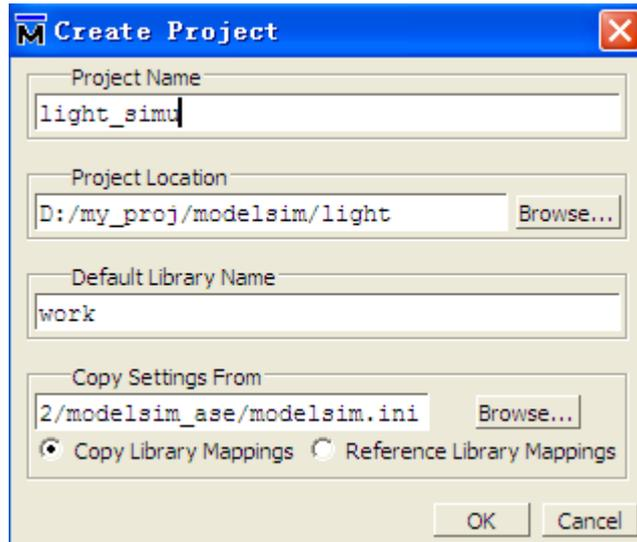

Figure 30.Create Project Window
- a. Select **File > New > Project** (Main window) from the menu bar to get the Create Project window where you can input a Project Name, Project location (directory) and Default Library Name (Figure 30). You can also refer to the library settings from a selected .ini file or add them directly into the project. The default library is located in the path of the project compilation files, and here we usually choose work (default) .